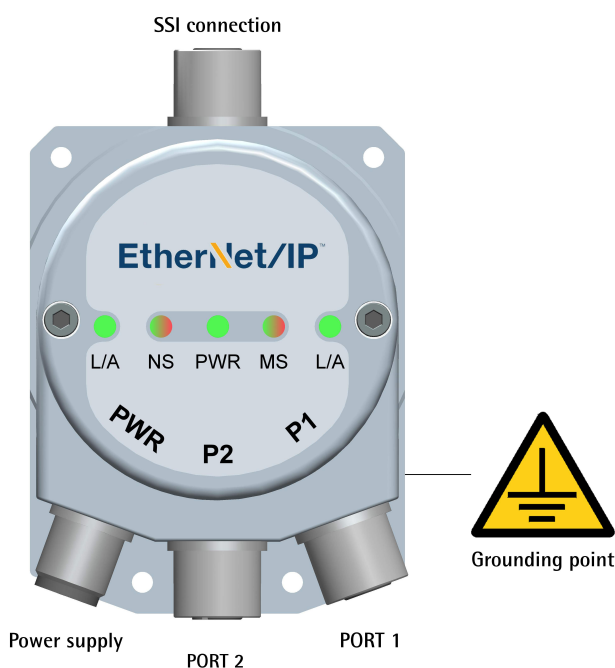

Figure 4 – IF55 EP
4.2 SSI connection (Figure 4)
4.3 Power supply and EtherNet/IP interface connectors (Figure 4)
4.3.1 PWR Power supply connector (Figure 4)
4.3.2 P1 Port 1 and P2 Port 2 connectors (Figure 4)